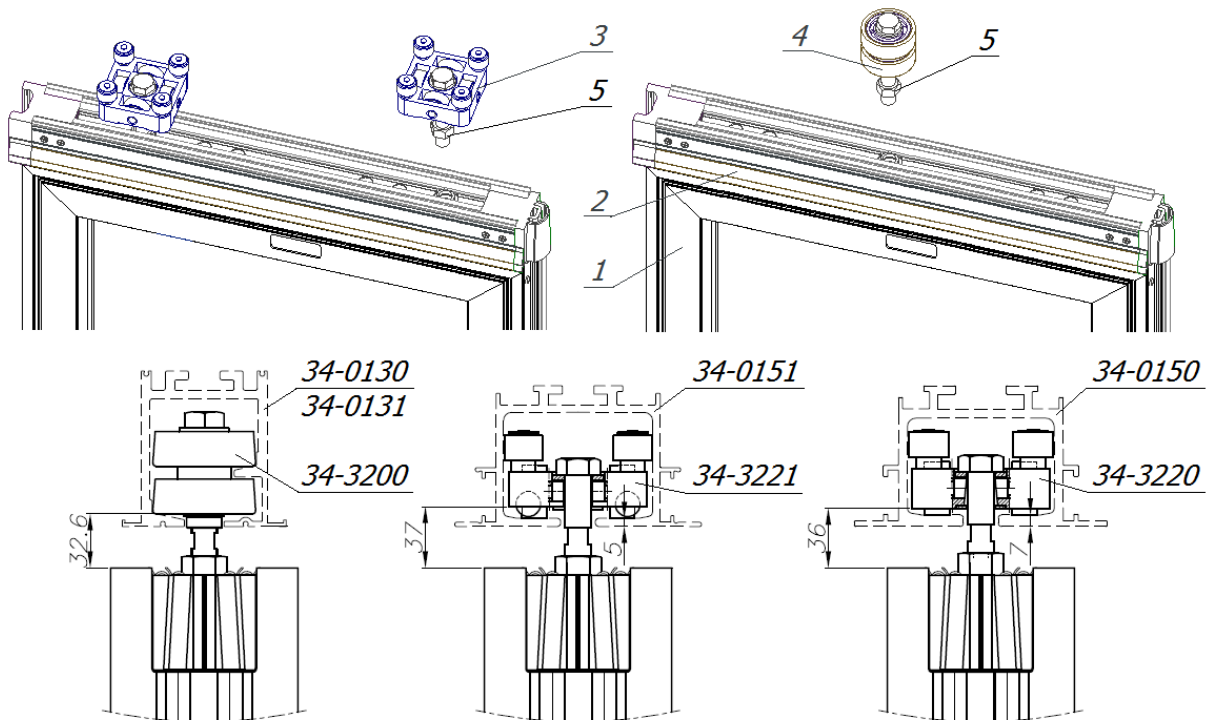

Fig.38. Screwing the carriages in the panels to the appropriate distance
Before hanging the panels in the track, **appropriate carriages** should be screwed in, thanks to which the mobile panel will move. Based on the suspended track (Chapter 6.3), the bogies are automatically assigned. **Trolleys are screwed into the holes** located in the upper part of the panel in the **draw-out beams (2 in Fig.38)**
Screw in the carriages (3 and 4) to the appropriate distance (Fig. 38) according to the type of carriage and **pre-lock them with a nut** set on the core of the carriage bolt (5)
DO NOT FORGET to screw the **M16 locknuts (5 in Fig.38)** onto the carriage bolt core when screwing them into the panel